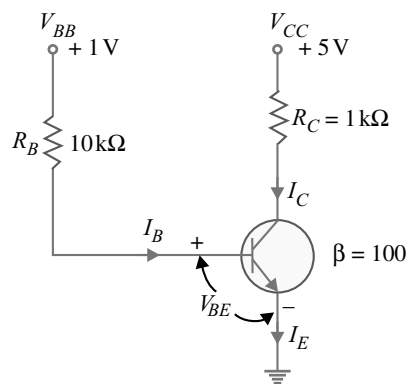

Fig. 6.69
**Example 6.48.** For the circuit shown in Fig. 6.69, find the power dissipated in the transistor. Assume  $\beta = 100$ .
**Solution.** The transistor is usually used with a resistor  $R_C$  connected between the collector and its power supply  $V_{CC}$  as shown in Fig. 6.69. The collector resistor  $R_C$  serves two purposes. Firstly, it allows us to control the voltage  $V_C$  at the collector. Secondly, it protects the transistor from excessive collector current  $I_C$  and, therefore, from excessive power dissipation. Referring to Fig. 6.69 and applying Kirchhoff's voltage law to the base side, we have,